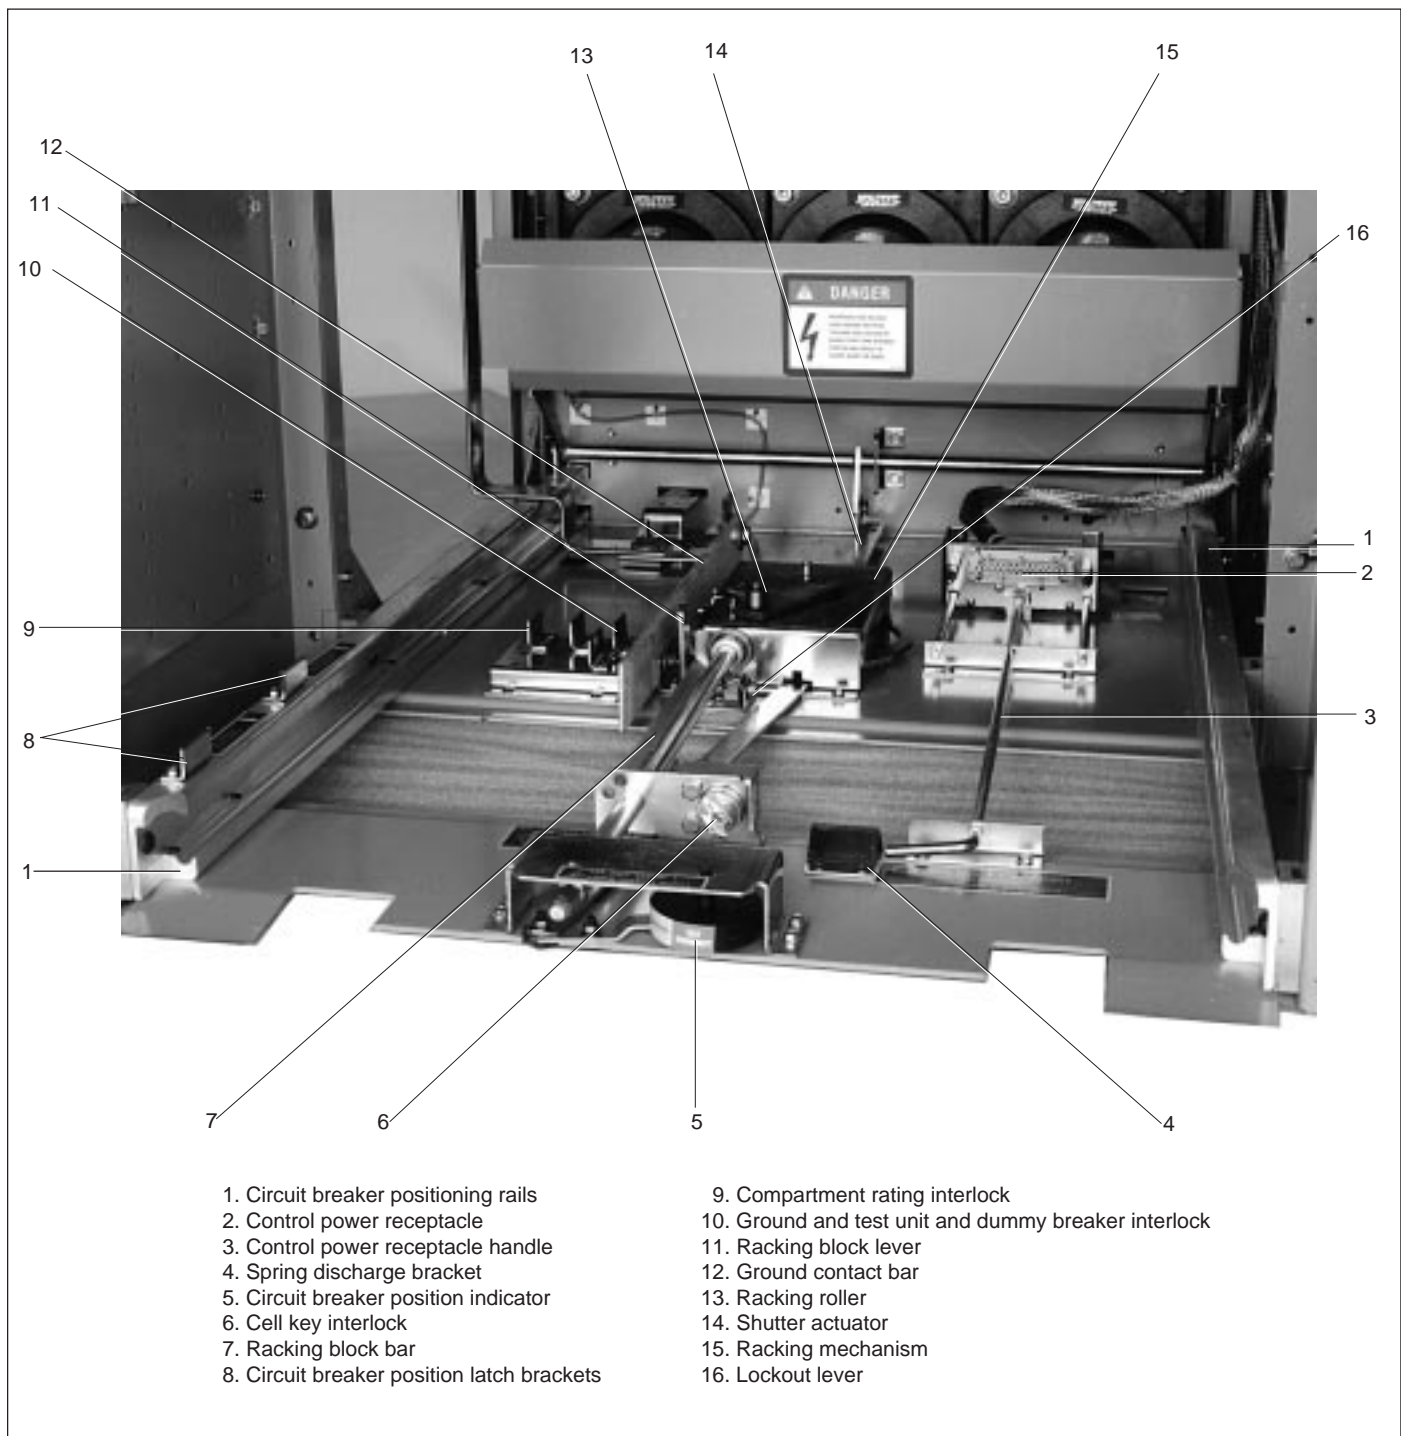
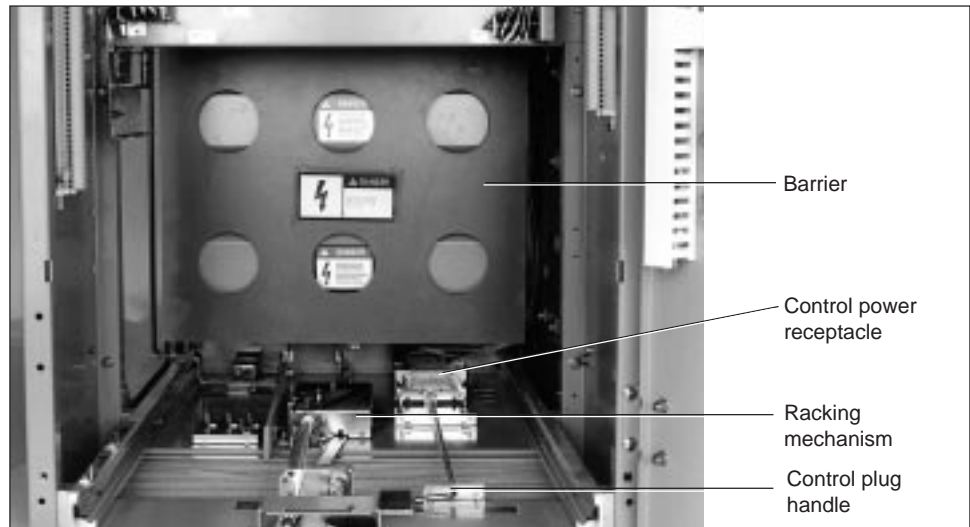
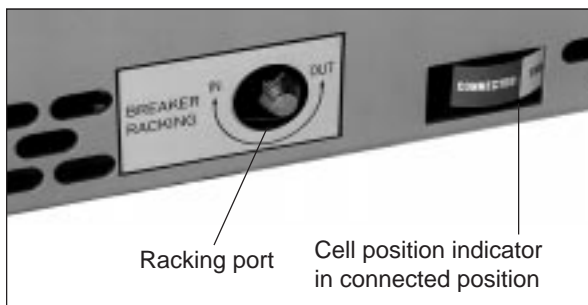

Figure 5: Circuit breaker floor plate, racking device, and interlocks
Figure 6: Circuit breaker cell without circuit breaker
Figure 9: Racking port and cell position indicator
Circuit Breaker Positioning Rails—The circuit breaker is equipped with one set of wheels for rolling the circuit breaker when it is outside the switchgear. Another set of rollers guide and position the circuit breaker inside the circuit breaker cell. All four rollers are captured in rails (figure 5, item 1, page 10) which position the circuit breaker in the vertical position.
Racking Mechanism—The racking mechanism (figure 5, item 15, page 10) is located on the circuit breaker cell floor. It is operated by a removable racking crank inserted into the front of the circuit breaker cell. The front may be either open or closed. The circuit breaker engages in a gear driven racking roller (figure 5, item 13, page 10). As the roller rotates, it moves the circuit breaker from the test to the operating position.
- A racking block bar (figure 5, item 7, page 10) welded to the racking shaft will hit an interlock pin on the circuit breaker when it is closed. This interlock mechanism will stop a closed circuit breaker from being moved between the test/disconnected position and the connected position.
- A lockout lever (figure 5, item 16) located on the drawout gear box stops the circuit breaker from being inserted into the cell when the racking roller is not in the test position.
- A racking block lever (figure 5, item 11) will not allow racking mechanism operation when the circuit breaker is not in the cell. Without the circuit breaker in the cell, the shutter cannot be opened.
- A spring discharge interlock (figure 5, item 4) will discharge the closing springs when the circuit breaker is inserted or withdrawn from the cell.
Compartment Rating Interlocks—These interlocks (figure 5, item 9) stop accidental insertion of circuit breakers with incorrect current, voltage, or interrupting ratings into the compartment. The stationary interference brackets are mounted on the floor of the compartment and the moving part of the interlock system is mounted on the underside of each circuit breaker.
Ground and Test Unit Dummy Circuit Breaker Interlock—Each circuit breaker cell is equipped with a ground and test unit (G & T) and dummy breaker permissive interlock (figure 5, item 10). G & Ts and dummy breakers that are not equipped with the required ground and test unit interlocks cannot be inserted into the circuit breaker cell. The permissive interlocks are located beside the position interlock on the circuit breaker cell floor. Refer to the specific G & T and dummy breaker instruction bulletins.
Barrier—A barrier (figure 6) in front of the shutter and bell assembly and CTs is designed to stop incidental contact with live main contacts.
Control Power Receptacle—The circuit breaker control power receptacle (figure 5, item 2, page 10) is located on the lower right floor of the compartment. The molded insulating receptacle contains 24 contacts and two tapered guidepins. The control power can be connected in the test position by rotating the control plug handle and pulling it forward. Refer to figure 5, item 3, page 10 and figure 6.
Disconnect Position Latch—A spring loaded latch on the circuit breaker engages behind the circuit breaker latch brackets on top of the left hand guide rail (figure 5, item 8, page 10) when the circuit breaker is in the test/disconnected position. The latch is disengaged by the circuit breaker release handle (figure 7) when the circuit breaker is in the test/disconnected position.
Shutters—Two steel shutters (figure 8) are mounted directly in front of the primary high voltage contacts. The shutters move with a rotary motion, actuated by the racking mechanism. Figure 5, item 14, page 10 shows the shutter actuator.
Circuit Breaker Position Indicator—An indicator beside the racking port (figure 5, item 5, page 10 and figures 9 and 10) shows if the circuit breaker is in test/disconnected, transport, or connected position. When the door is open, two arrows that line up with the front cover are visible on the left hand rail. They also indicate the position of the circuit breaker.
Cell Interlock—A cell key interlock provision (figure 5, item 6, page 10) is provided in each circuit breaker cell for locking a circuit breaker out of the connected position. The cell interlock is located in the center of the cell floor and has padlock provisions as standard. It can be equipped with a key interlock when specified by the user. The cell interlock prevents racking the circuit breaker into the connected position. A circuit breaker can be stored in the test/disconnected position with the cell interlock locked.
With the door closed, the position indicator (figure 9, page 13) shows if the circuit breaker is in the test/disconnected position, in transport, or in the connected position. With the door open, two arrows on the left hand rail show if the circuit breaker is in the test/disconnected position or in the connected position.